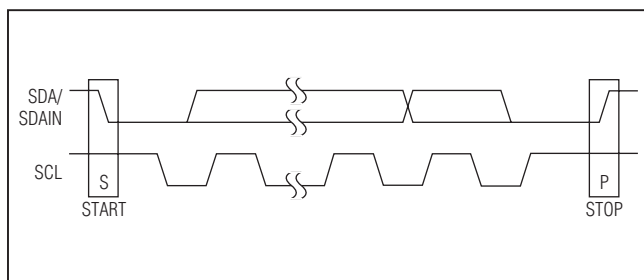

Figure 6. START and STOP Conditions
Both SCL and SDA remain high when the interface is not busy. A master signals the beginning of a transmission with a START (S) condition by transitioning SDA from high to low while SCL is high. When the master finishes communicating with the slave, the master issues a STOP (P) condition by transitioning SDA from low to high while SCL is high. The STOP condition frees the bus for another transmission (see Figure 6).